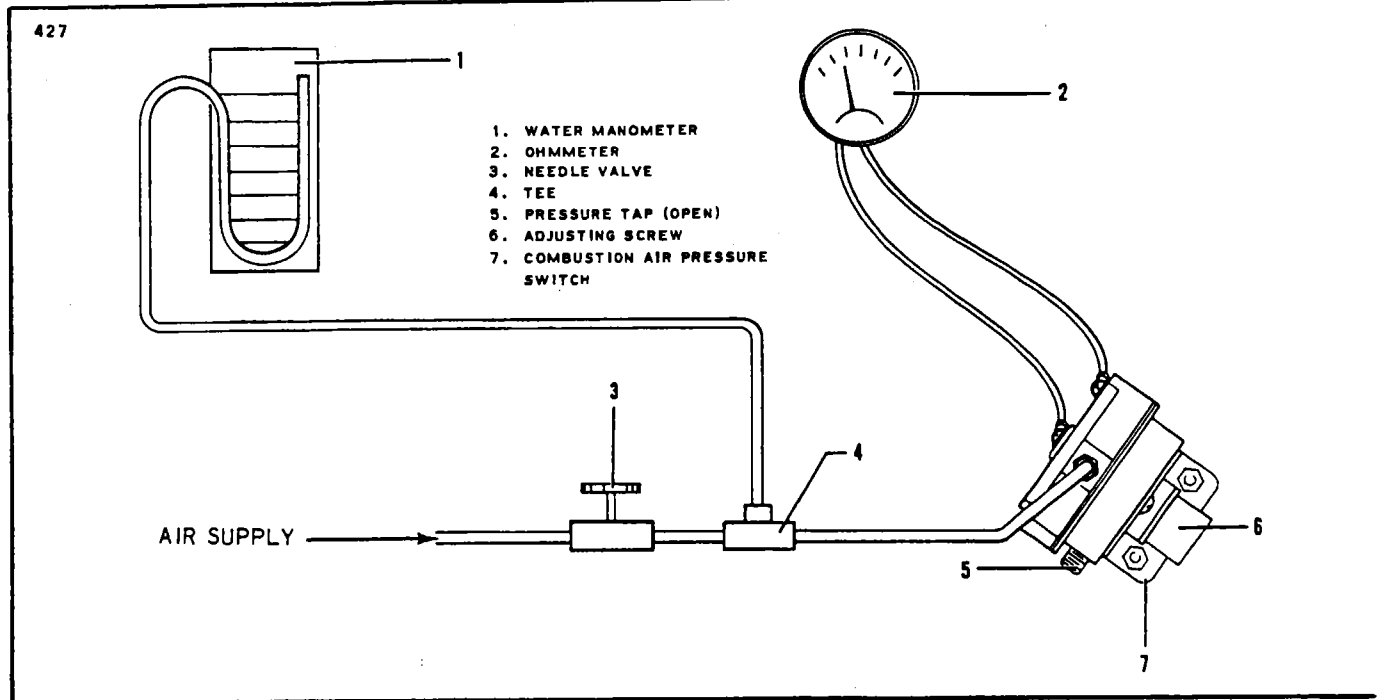

Figure 13-16. Test Setup - Combustion Air Pressure Switch
h. The combustion air pressure switch must respond to delicate pressure changes and should always be checked and/or replaced at overhaul. (Refer to Paragraph 13-60 and Figure 13-16.)
13-60. TESTING COMBUSTION AIR PRESSURE SWITCH. (Refer to Figure 13-16.)